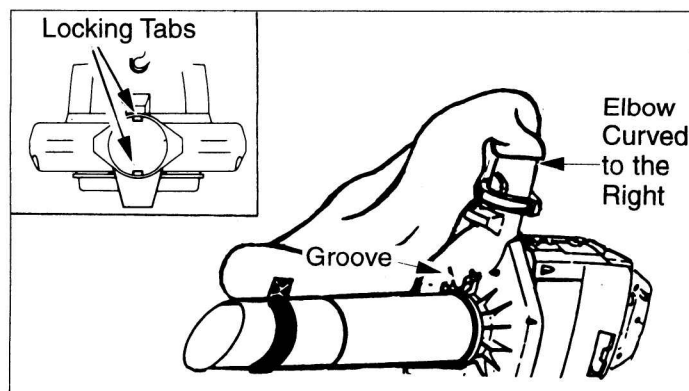

Figure 6
- Slide the looped strap over the end of vacuum tube as shown in Figure 6.